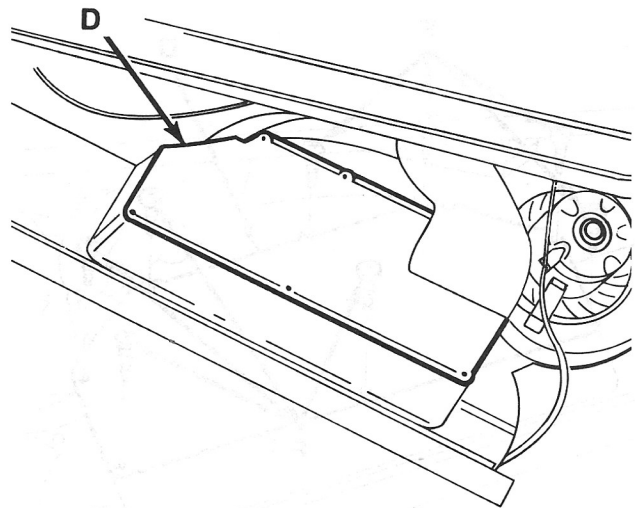

Fig. 6
This will give access to the evaporator housing cover (D) (Fig. 6).